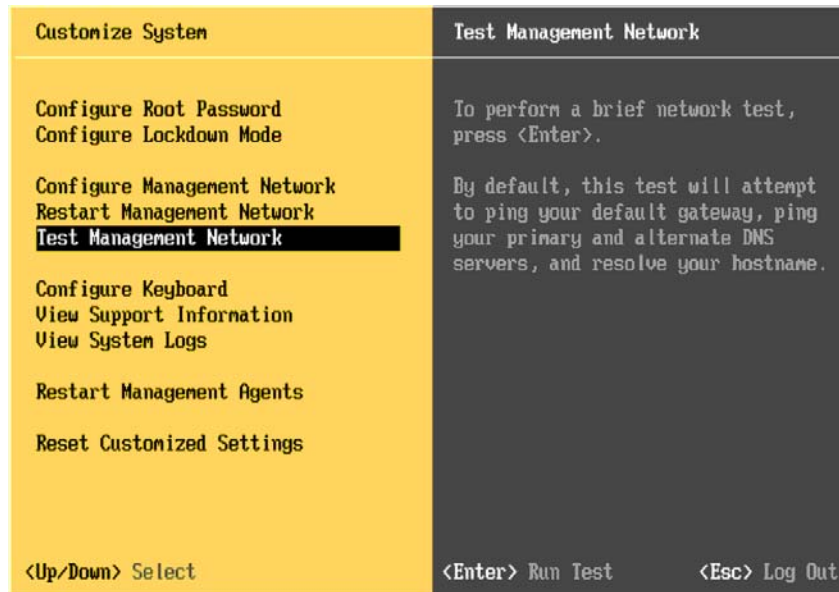

Figure 5-19 Testing of the management network settings
7. Test that the network interface settings are correctly configured to ensure that you can connect to the ESXi host for further configuration using VMware VI Client or VirtualCenter. By default, this test tries to ping your Default Gateway, DNS server IP addresses and performs DNS resolution of your ESXi host name. See Figure 5-19.